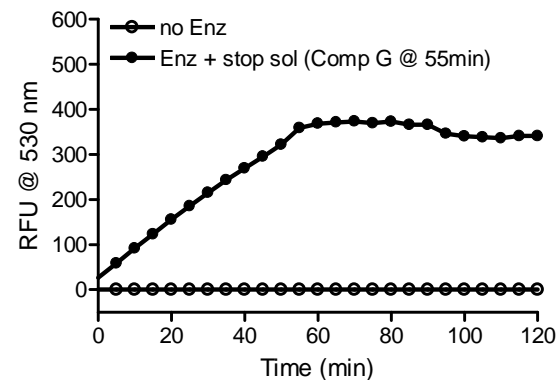

Fig. 3. Stop solution (component G) effectively maintained RFU value when added at any desired time points.
**E. Data collection at end-point mode:** After initiation of reaction with test compound or control inhibitor at  $25^{\circ}\text{C}$ , add stop solution at certain time points (ex, 30, 60 or 90 min) (component G, 5ul/well of 96-well or 1ul/well of 384-well plate) and measure RFU values. After addition of stop solution, further cleavage reaction will be stopped and the RFU values are maintained as shown in Figure 3. This method is useful for the high throughput screening of test compounds to obtain potential drug candidates.